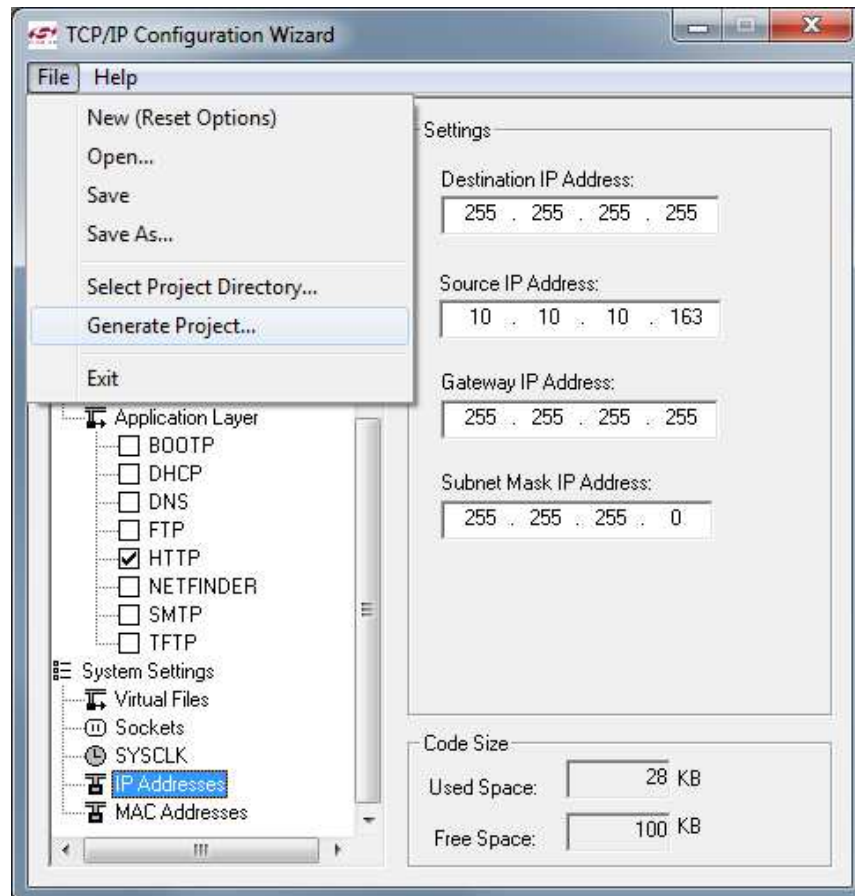

Figure 9. TCP/IP Configuration Wizard Project Generation
10. Generate a new project with supporting firmware by selecting **Generate Project** from the **File** menu (see Figure 9).